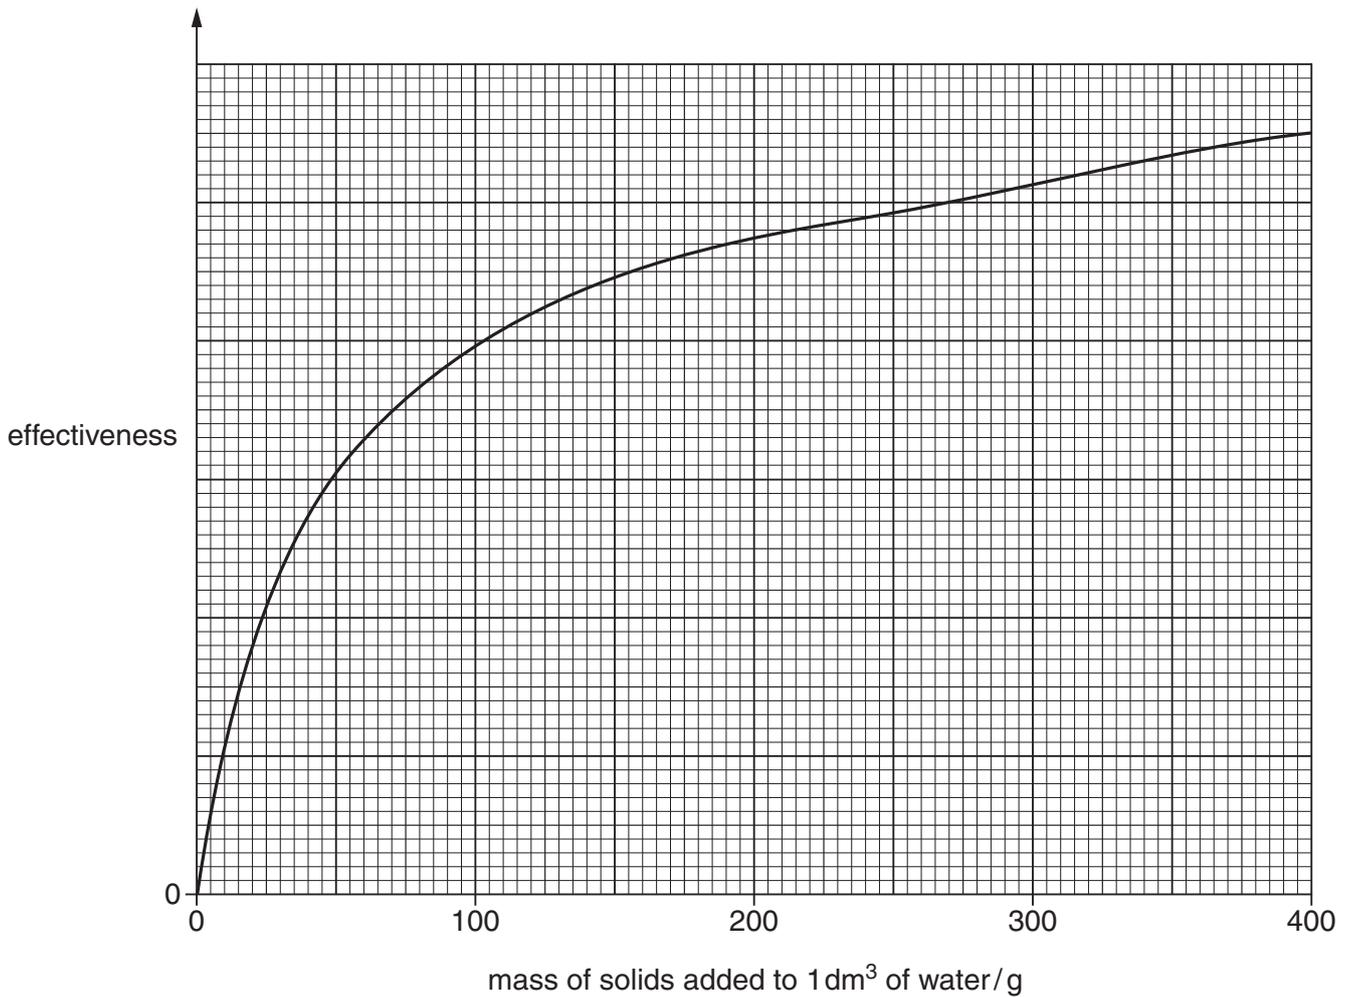

Fig. 3.1
- (iv) An article in a book showed a graph of the effectiveness of Bordeaux mixture at destroying fungi against varied amounts of the two solids, Fig. 3.1.
- (v) Research shows that the effectiveness of Bordeaux mixture partly depends on absorption of copper into the root system. Use this comment to suggest why the curve in Fig. 3.1 has this shape.